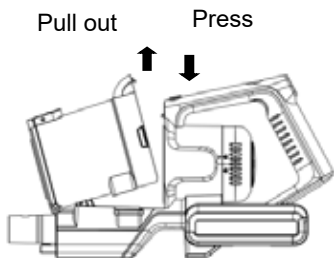

Fig. 13
2. Click the dust container release button, located on the front of the handle just above the dust container and pull dust container out(Fig 13)